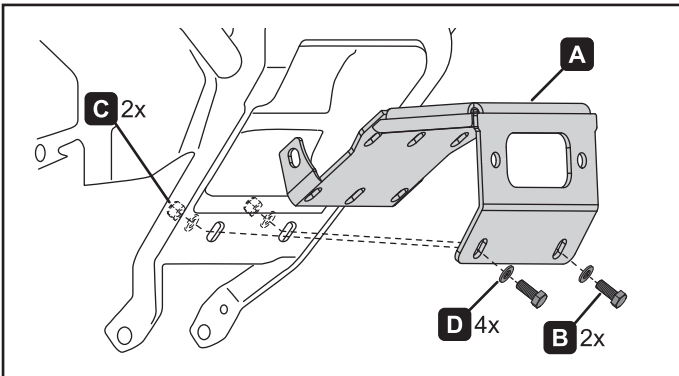

Figure 4.
3. Place mount into bumper as shown in figure 4. Fasten mount to bumper with provided bolts (B), washers (D) and nuts (C). Do not tighten hardware at this time.
7. Tighten bolts (B), washers (D) and nuts (C) from step 3, see figure 4.